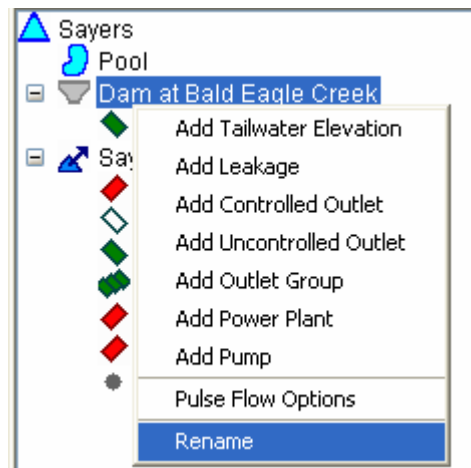
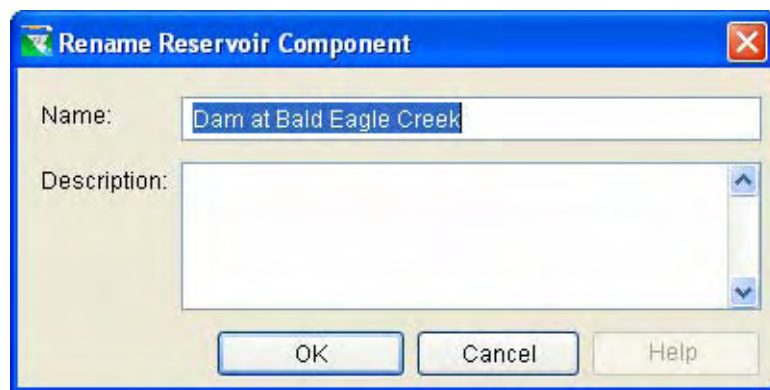

Figure 10.22 Reservoir Component Shortcut Menu: Rename Component
Figure 10.23 Rename Reservoir Component
2. Using either the right-click shortcut menu (Figure 10.22) or the component menu in the Reservoir Editor's menu bar, choose **Rename**. The **Rename Reservoir Component** dialog box will open (Figure 10.23).